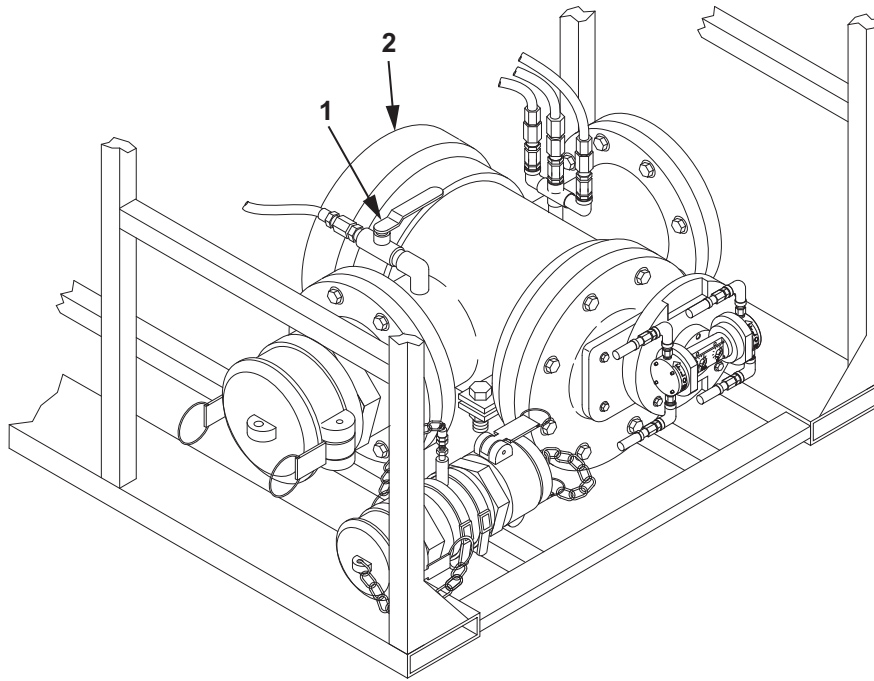
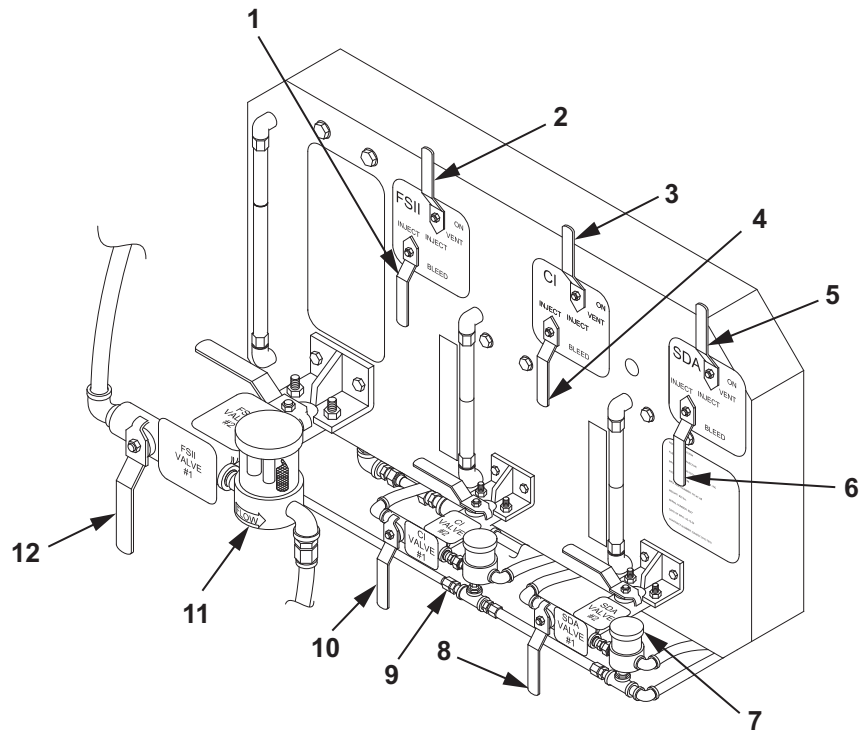

Figure 24. Fuel Priming Valve, Additive Injector Housing.
Figure 25. Priming the Fuel Additive Injection Assembly with the On-Board Priming System.
3. Position the priming valve (Figure 24, Item 1) on the injector housing (Figure 24, Item 2) to the off position.
4. Close the SDA VALVE #1 (Figure 25, Item 6).
5. Close the CI VALVE #1 (Figure 25, Item 10).
6. Close the FSII VALVE #1 (Figure 25, Item 12).
7. Position the FSII bleed valve (Figure 25, Item 1) to the INJECT position.
8. Position the FSII vent valve (Figure 25, Item 2) to the INJECT position.
9. Position the CI bleed valve (Figure 25, Item 4) to the INJECT position.
10. Position the CI vent valve (Figure 25, Item 3) to the INJECT position.
11. Position the SDA bleed valve (Figure 25, Item 6) to the INJECT position.
12. Position the SDA vent valve (Figure 25, Item 5) to the INJECT position.
13. Position the priming valve (Figure 24, Item 1) on the injector housing (Figure 24, Item 2) to the on position for at least 30 seconds. Leave the valve on until a clear, air-free stream of fuel is observed in the sight flow indicators (Figure 25, Item 7, 9, 11).
14. Position the priming valve (Figure 25, Item 1) to the off position.
15. Open SDA VALVE #1 (Figure 25, Item 8).
16. Open CI VALVE #1 (Figure 25, Item 10).
17. Open FSII VALVE #1 (Figure 25, Item 12).